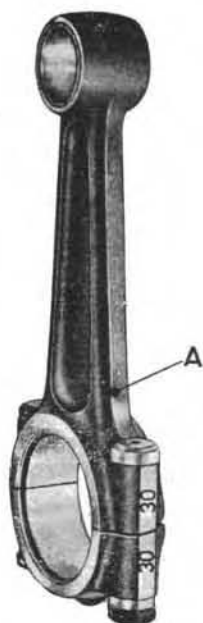

Fig. 38
When fitting up con-rods on crankshaft, pay attention that lubrication ducts in con-rod big ends are set as follows (see A on Fig. 38):
N.B.: Viewing engine from clutch side, number marked on con-rod big end must match with number marked on cap. Both numbers must be on same side (see Fig. 38).